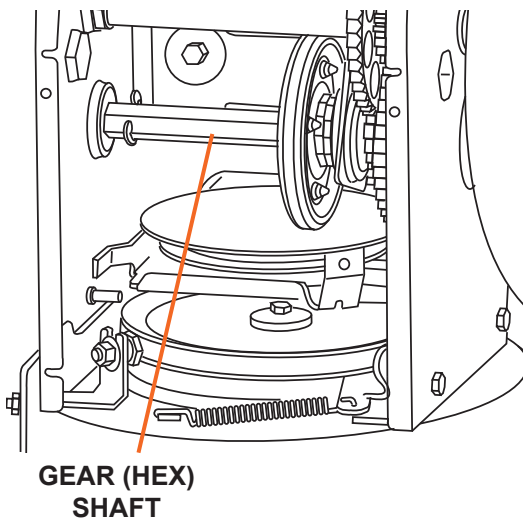

Figure 18
2. Apply a light coating of an all-weather multi-purpose grease to the hex shaft (see Figure 18).